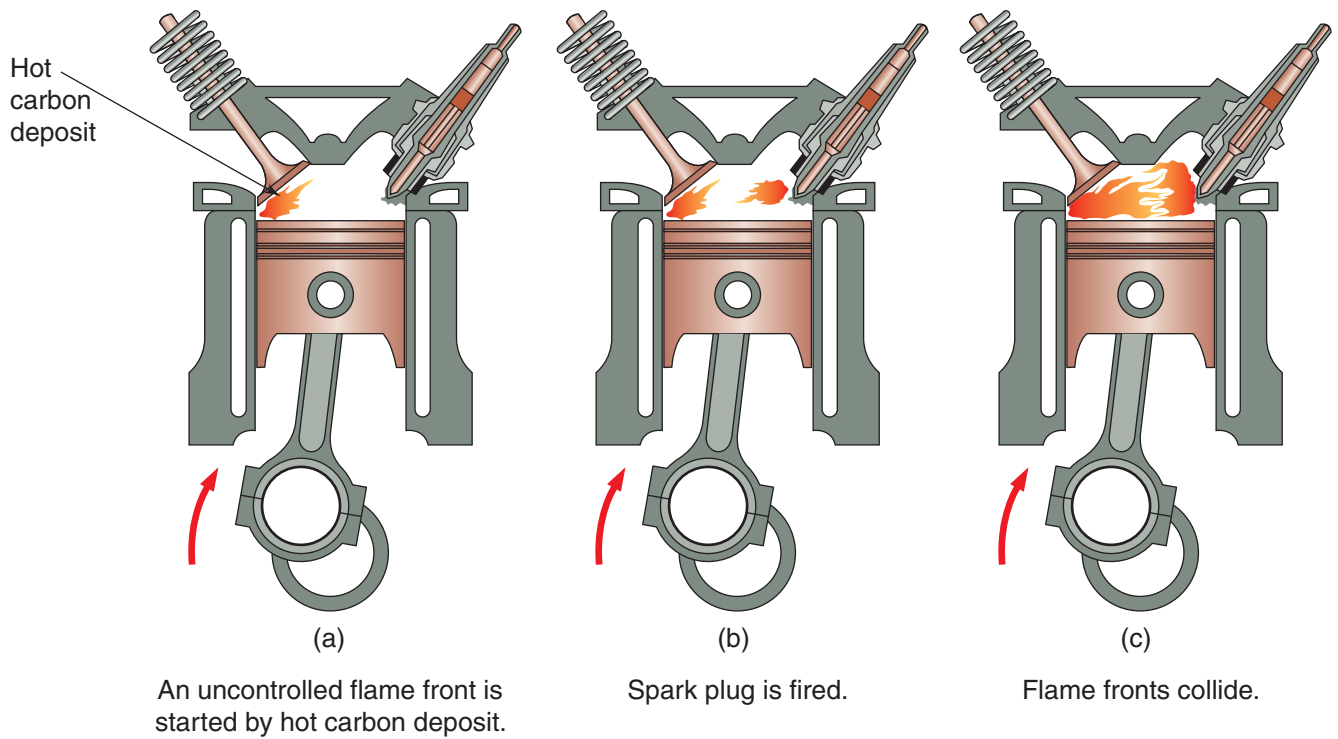

Figure 12-59 The phases of preignition.
- **Preignition.** When **preignition** occurs, the air–fuel mixture in the combustion chamber ignites before the spark plug actually fires. This may sound strange. How can the mixture ignite before there is spark? The explanation is based on the fact that the burning air–fuel mixture produces a lot of heat. The lingering high temperature in the combustion chamber can cause small carbon deposits to continue to burn, thereby causing the mixture to ignite without a spark (Figure 12-59). Preignition can also be caused by excessive compression of the air–fuel mixture. The carbon that sometimes builds up on the cylinder head and piston crown reduces the overall volume of the combustion chamber. The chamber's reduced volume results in an increase in the